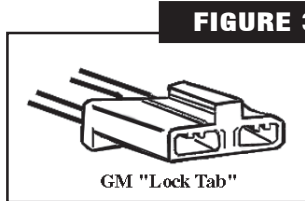
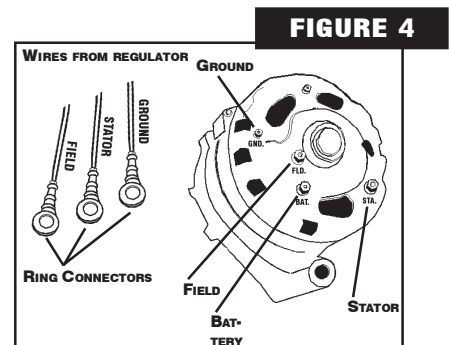

FIGURE 3
FIGURE 4
4. Internal regulators use a special connector at alternator (Figure 3). Make certain this connector is not corroded. Replace if necessary.
4. If the unit is a GM Delco SI series, press on locking tab (see Figure 3) and grasp the connector firmly and remove. If the unit is a Ford early style with external regulator, carefully label each wire as to its location and remove nuts holding each wire. Some units use a push-on connector at the stator and field terminals. Cut and remove the push-on connectors and replace with a ring connector as illustrated in Figure 4.